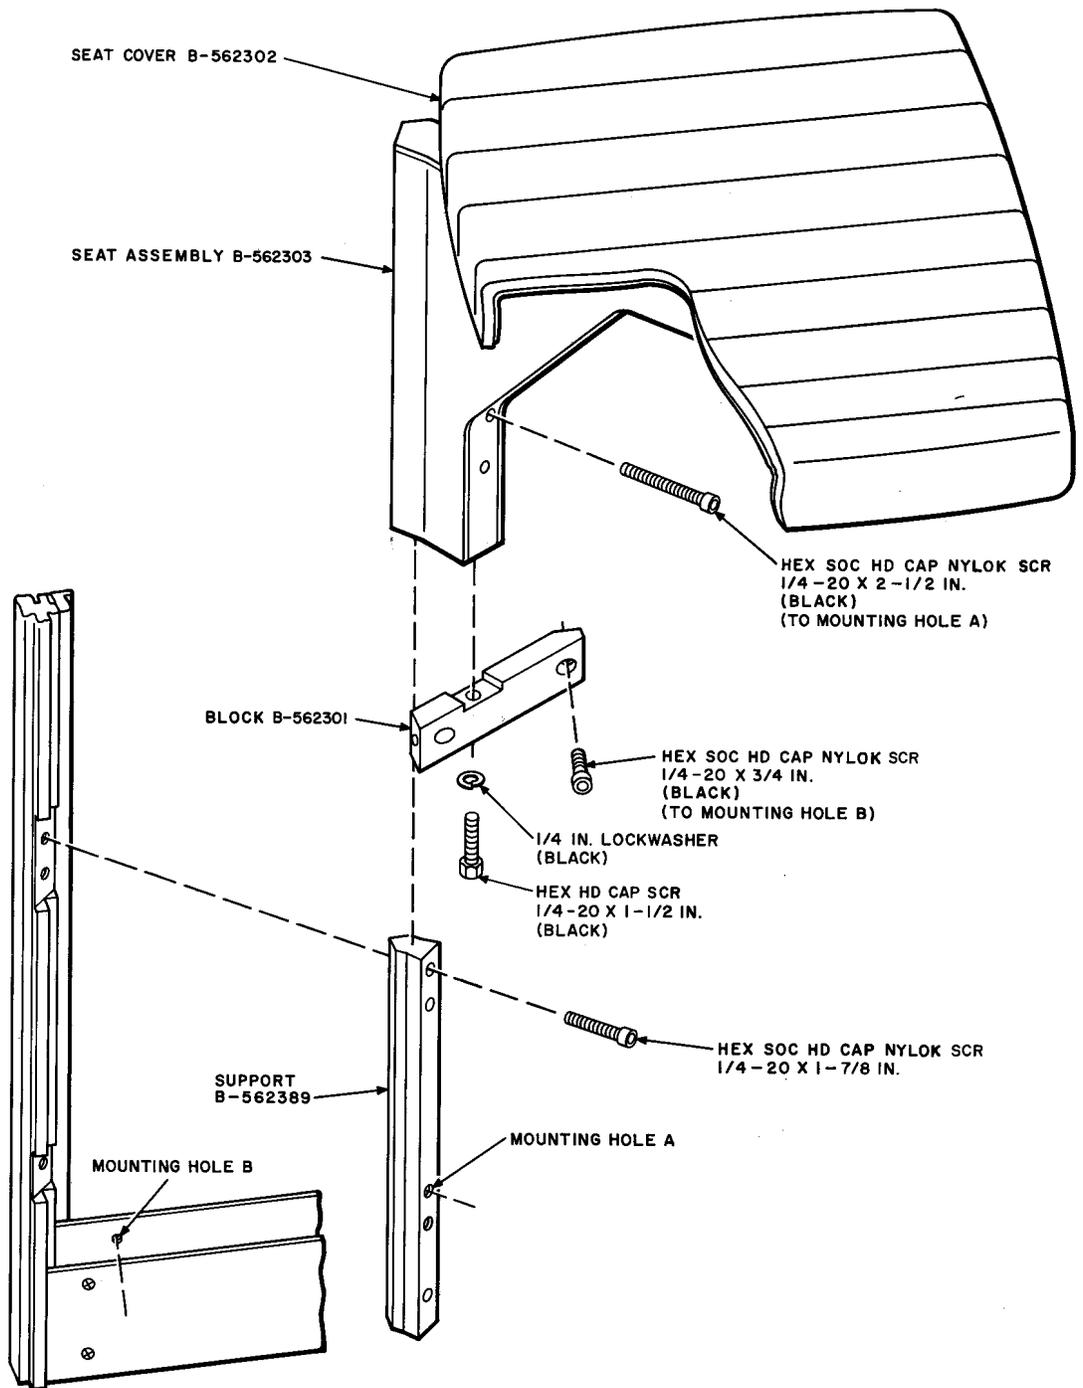

Fig. 1—Installation of Seat Assembly
- 3.02** Remove seat assembly from booth per Fig. 1.
- 3.05** Install seat assembly in booth as follows (Fig. 1):